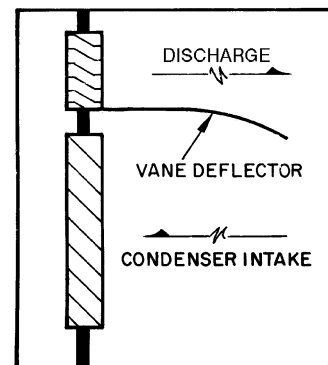

Fig. 9 — Condenser Ductwork Details
Step 6 — Ductwork — The 09BY unit is designed for use either with or without ductwork or rain louvers. If either is used, care must be taken to eliminate air recirculation. Recirculation can be minimized by blocking the front discharge and discharging through an extension elbow. When properly designed, hinged discharge louvers can be applied to ductwork and to the condenser air discharge. Fixed rain louvers over discharge outlets can cause excessive recirculation and nuisance high-pressure switch cutouts. Obstructions closer than 10 ft to the discharge air pattern can cause significant recirculation. See Fig. 9 for ductwork installation to prevent recirculation of air.